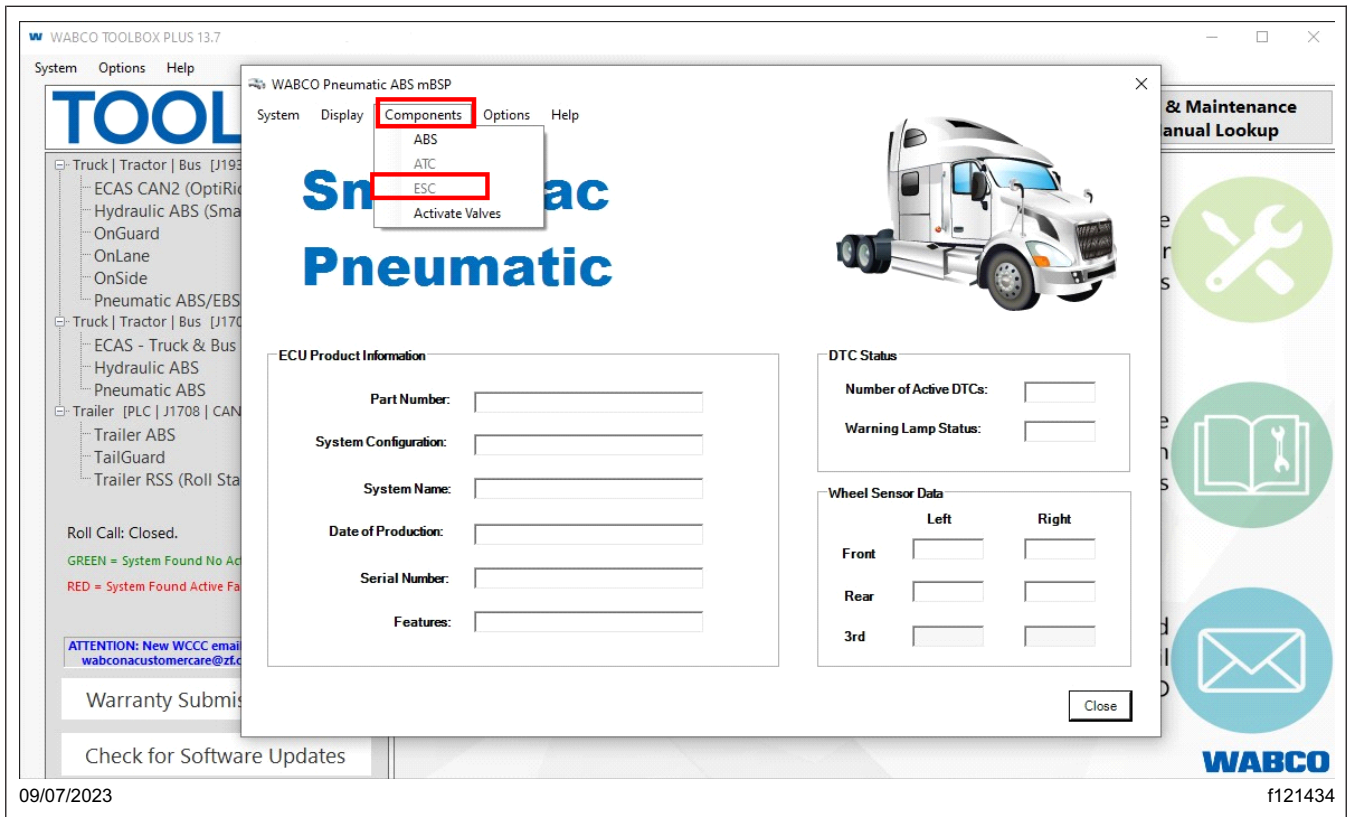

Fig. 22, Navigating to the ESC Window in Toolbox
- 28.1 In the 'WABCO Pneumatic ABS mBSP' window, select 'Components,' then from the drop-down list, select 'ESC.' See Fig. 22.